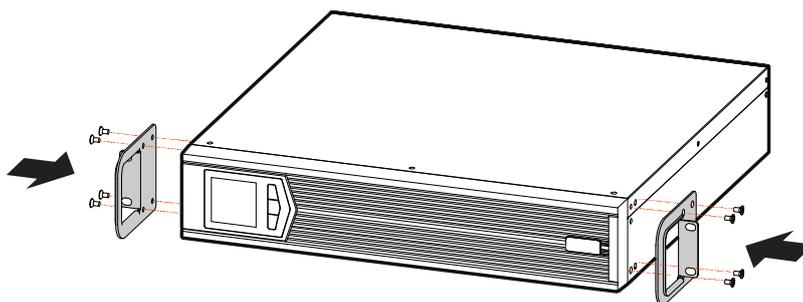

Figure3-1 Install angle iron
- Step 1 Fasten the two angle irons onto the two sides of the UPS by 4 sunk screws, as shown in Figure3-1.